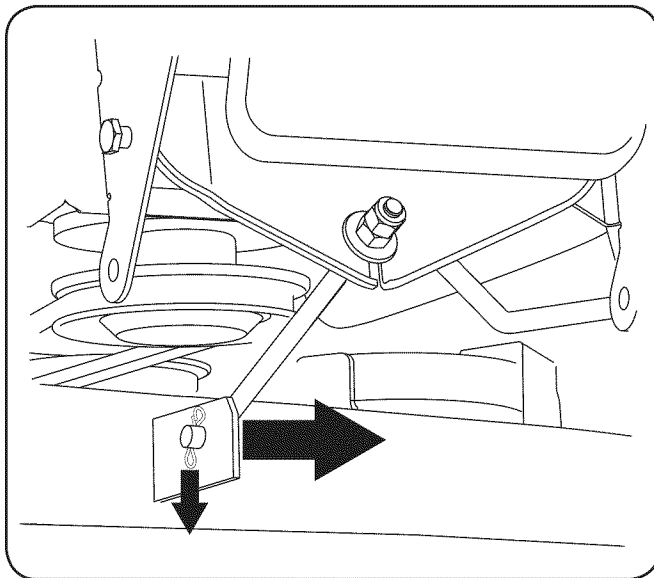

Figure 7-4
- Remove the cotter pin from the end of the stabilizer rod and slide the stabilizer out of the hanger bracket on the deck. See Fig. 7-4.